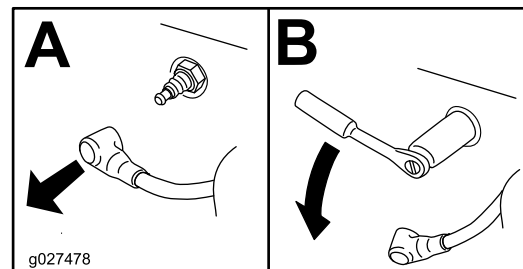

Figure 39
4. Remove the spark plug(s) as shown in Figure 39.